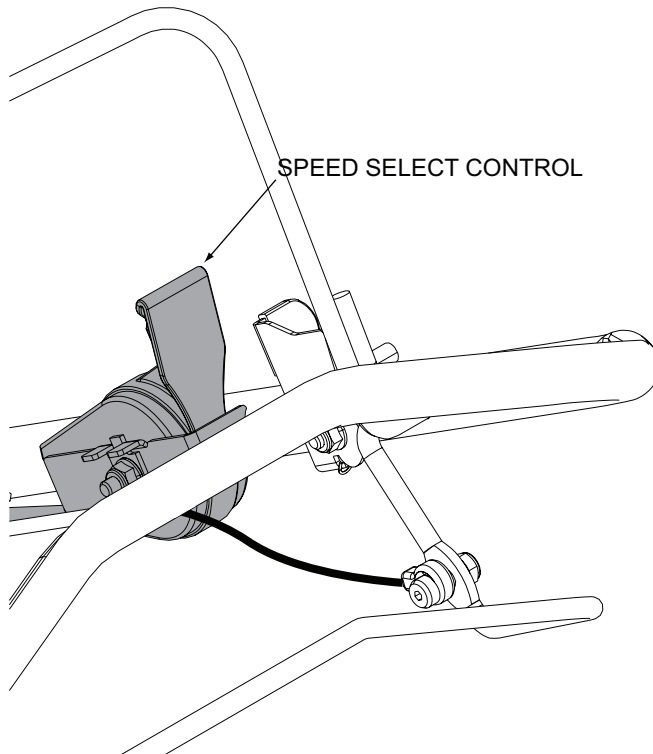

Figure 6-3. Speed Select Control Adjustment
8. Move the speed select control all the way back. See Figure 6-3.